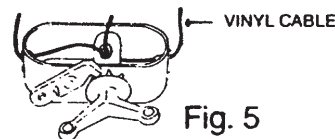

Fig. 5
4. For covers with a ratchet: insert one cable end through the hole at one end of the ratchet and into the center spindle. Turn the spindle a few times to secure the cable. Insert the other cable end through the other hole in the ratchet and pull the cable through the spindle as far as it will go. Turn the ratchet handle to tighten the cable. Make sure cable lies on the outside of the cover all around the pool except where it goes through the pairs of grommets. The cable must fit tightly against the wall of the pool to prevent wind from getting underneath the cover. To loosen or remove cable, press lever on top of ratchet and turn handle in the opposite direction (See Figure 5).